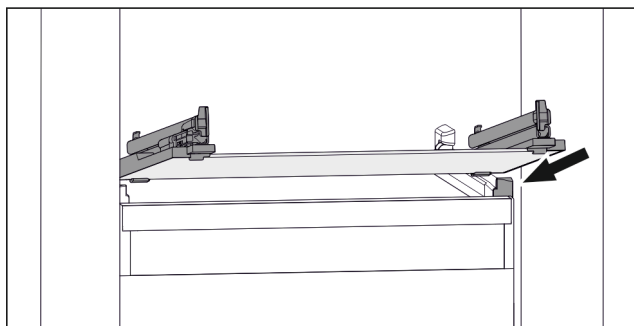

Fig. 110 Example illustration of glass shelf
- Position glass shelf at an angle behind the stoppers. (see Fig. 110)